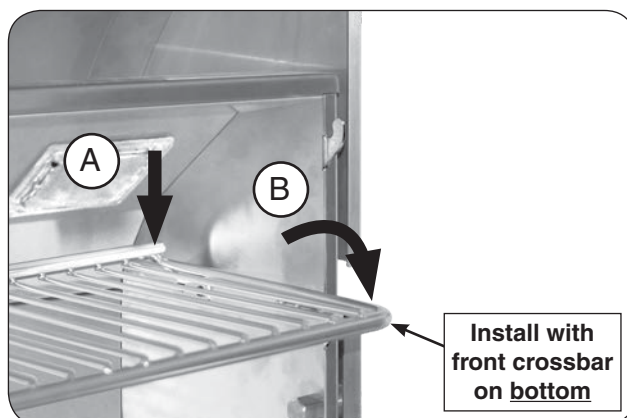

Fig. 23-2 Place warming rack for use
2. With the warming oriented as shown, carefully rest the rear of the rack onto the rear support plates (see Fig. 23-2, A), then lower the warming rack arms onto the lower hooks for use (see Fig. 23-2, B).